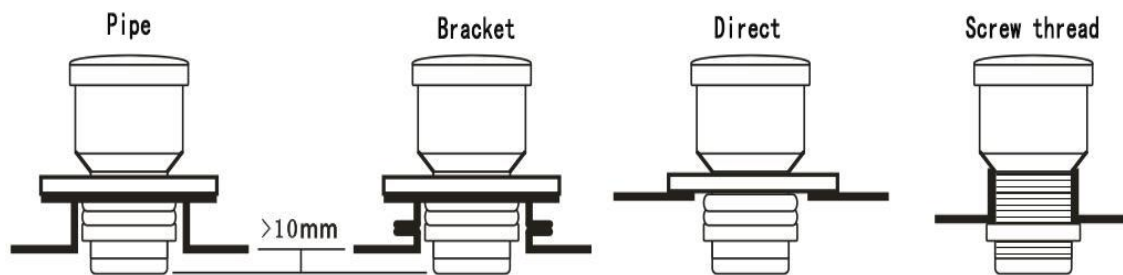

Figure 3
3. Lever meter can be installed by flange or $\varnothing 61$ hole, whatever installation way, make sure the sensor bottom go through the installation hole or flange, as Figure 3.